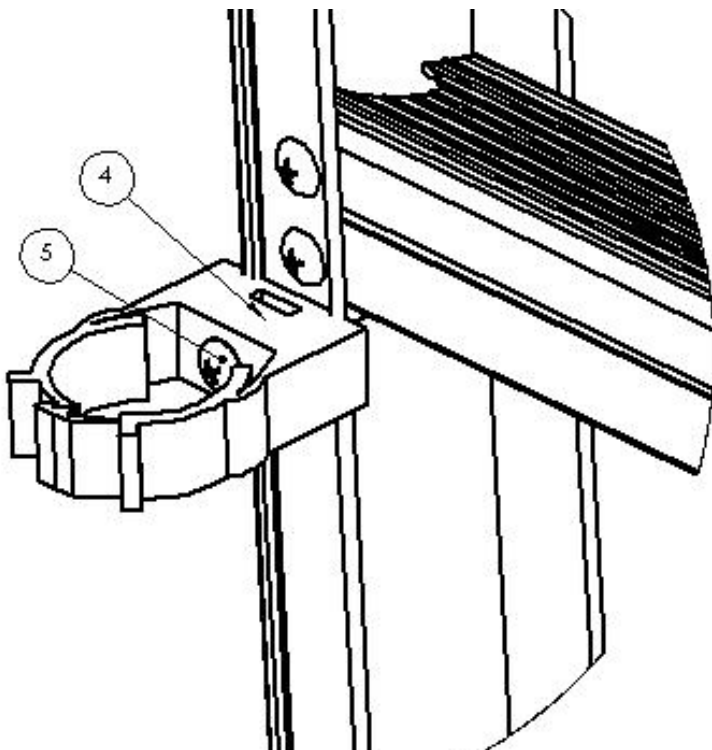

**Figure 11**
- 14) Apply PVC glue to the male slip end of the (#1) 90 degree elbow and insert the plumbing assembly from step 13 into the fitting in the bottom of the runway. It is important that the assembly be attached to the slide in the orientation shown in Figures 11 and 12, with the hose towards the ladder. sufficient time for the glue to cure before moving on to the next step.